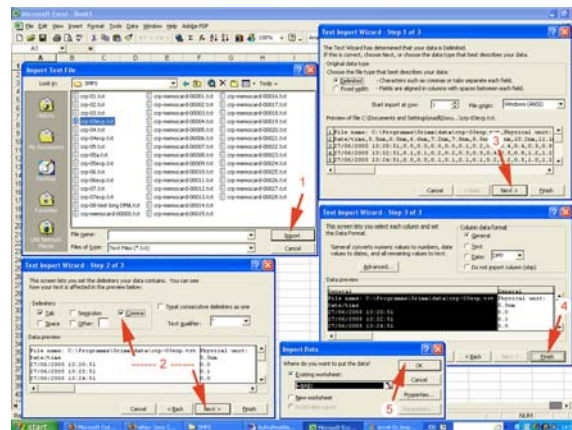

Fig.13: import selected SMPS file
- Select exported SMPS file (step 1 in figure 13);